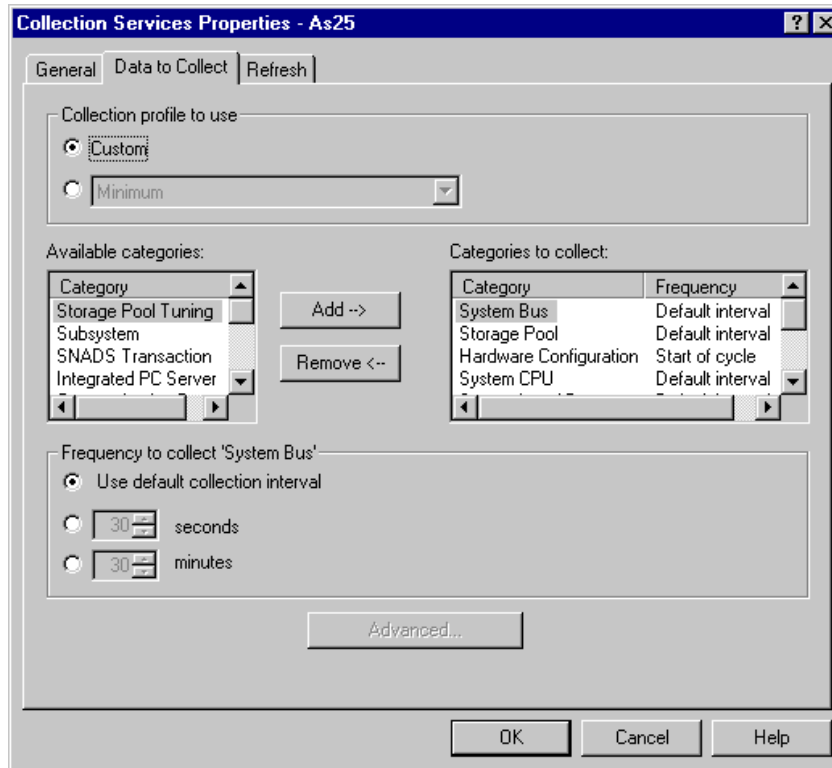

Figure 111. Collection Services Properties window: Data to Collect page
5. Click the **Data to Collect** tab to view the window shown in Figure 111 on page 138.